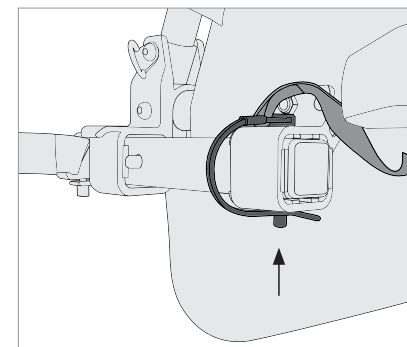

Figure 11
3. Make sure the retaining pin has locked properly as shown (Figure 11 & 12).